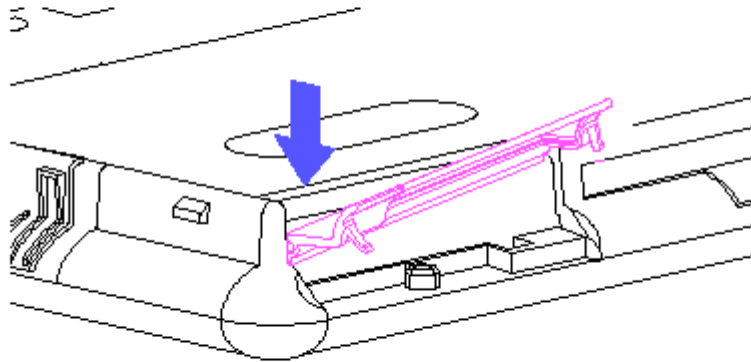

Figure 3-21. Removing the PCMCIA Door
3. Flex the door slightly while pushing down to snap the door out (Figure 3-21).